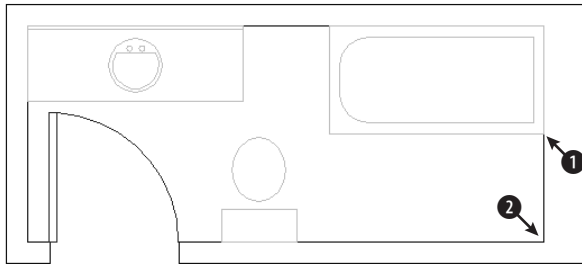

Figure 9-4: The bathroom plan
Specify base point or displacement: *Move the cursor to the Intersection at ① in Figure 9-4 and click.*
Specify second point of displacement or <use first point as displacement>: *Move the cursor to the Intersection at ② in Figure 9-4 and click.*